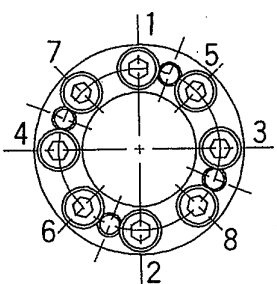

Fig. 3 Tightening sequence for bolts
- given below for torque MA) and tighten each of the tightening bolts evenly in the sequence shown in figure 3.